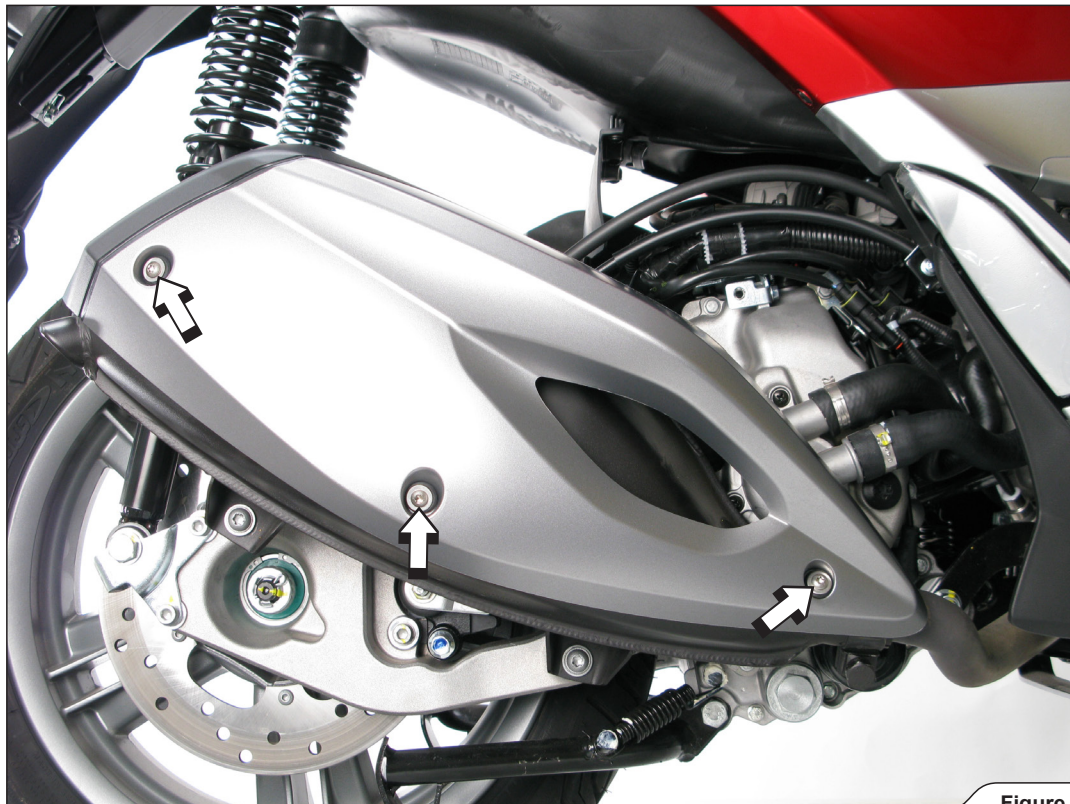

Figure 1
2. Unscrew the marked bolts and remove the muffler heat shield (**Figure 1**).